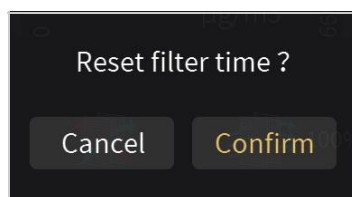

Fig.2.6.4
The service life of the filter set by the parameter configuration. When the filter time reaches to the parameter setting value, the alarm state can be issued through the bus, and the remaining filter timer value can be displayed to be 0%. When touch icon⑦, the filter time can be reset, as shown in Fig.2.6.4 below. After clicking "Confirm", the filter timer value can be reset to 100%.